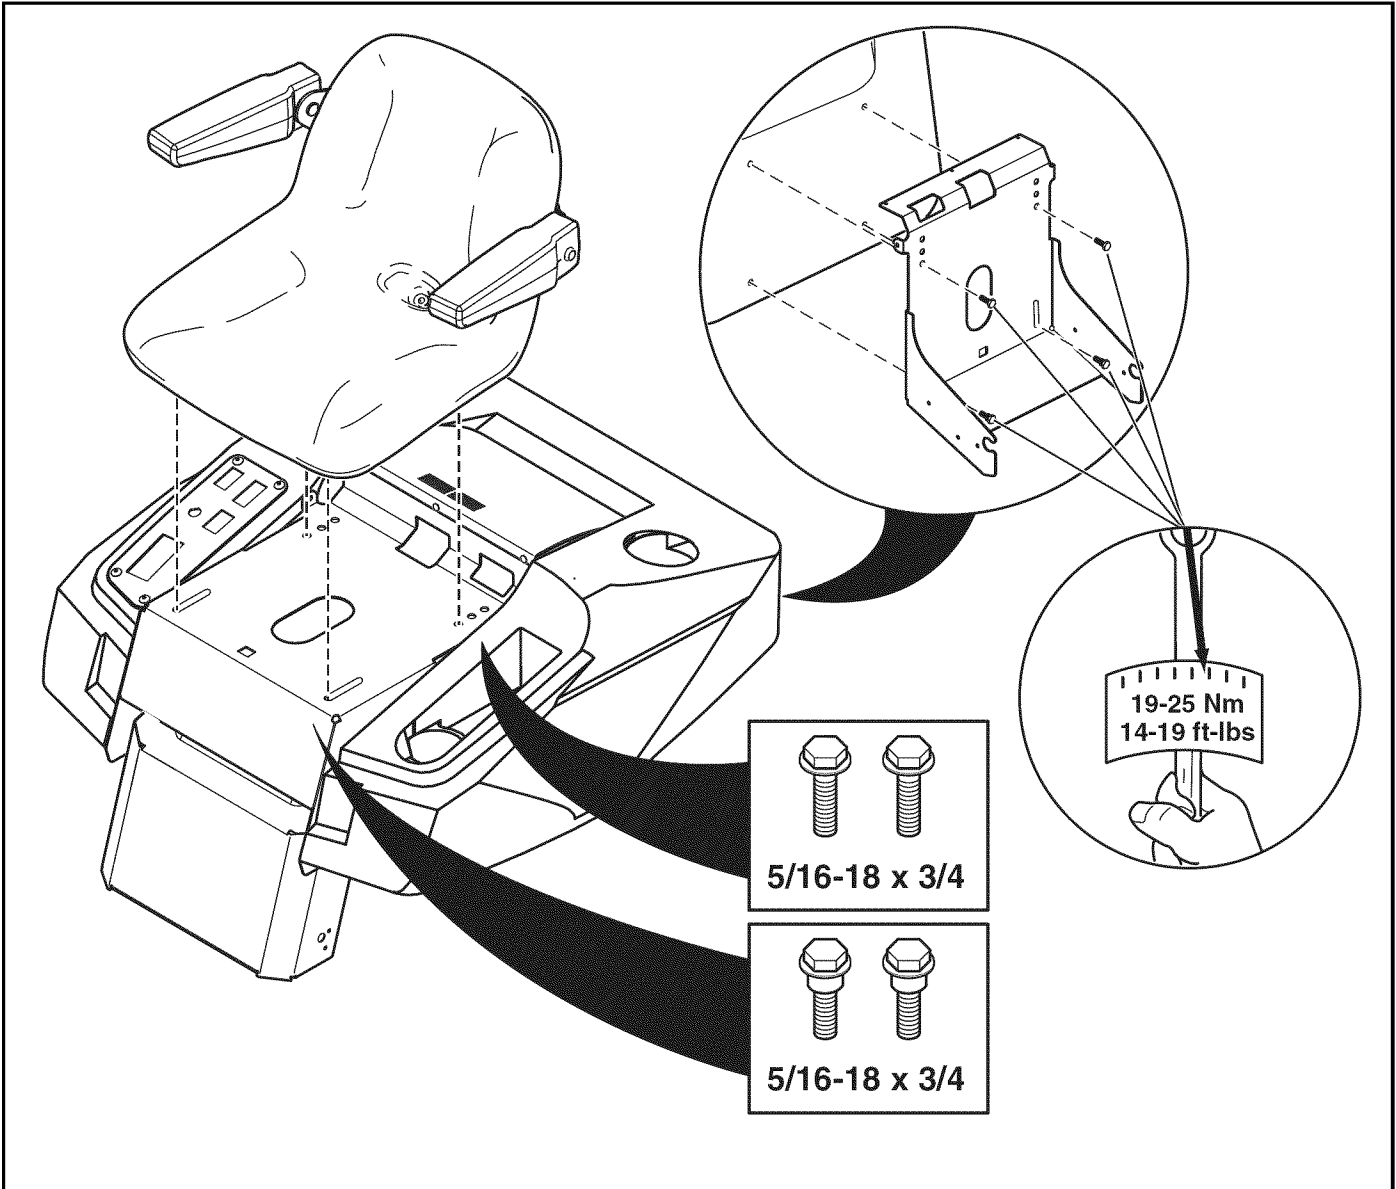

Figure 1. Installing the Seat
1. Raise the seat base (see Figure 1).